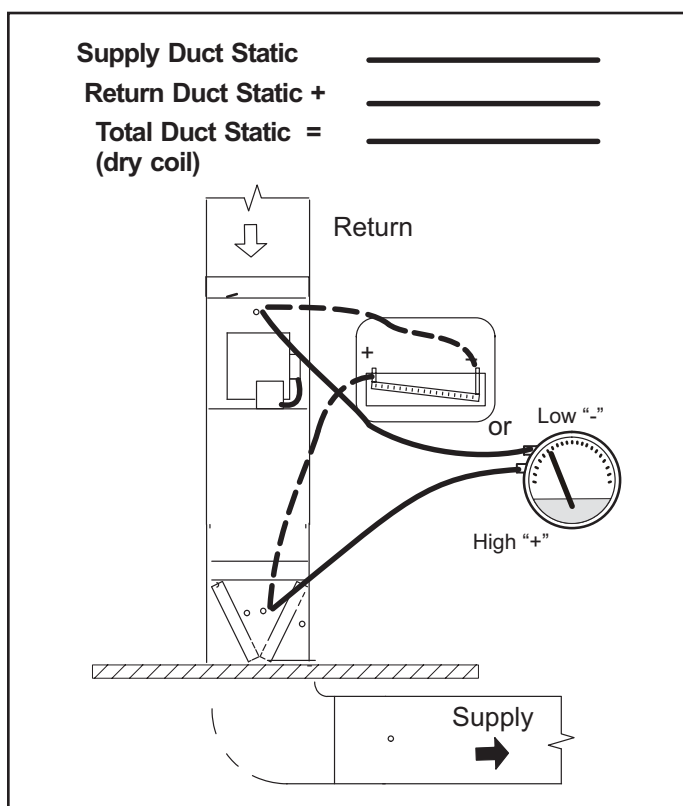

Figure 50. Static Pressure Test
1. Tap locations shown in Figure 50.